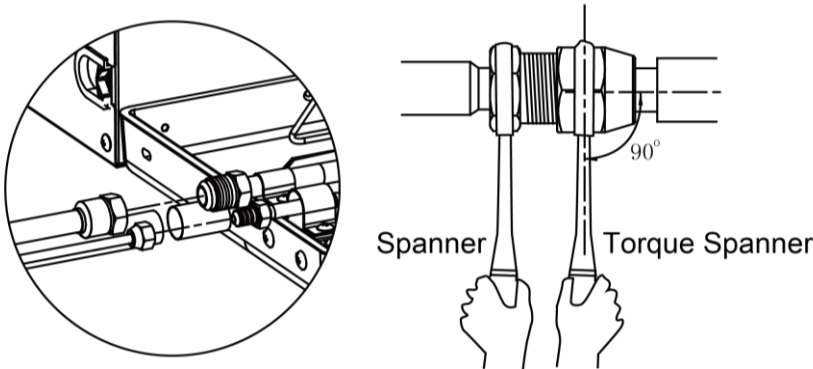

Fig.4.3.1
- (1) Before welding pipes and sealing caps, please release the residual pressure in the pipes. Direct welding may lead to property loss or personal injury.
- (2) Conform to the following principles during piping connection: Connection pipeline should be as short as possible. The height difference between indoor and outdoor units should be as short as possible. Keep number of bends as little as possible. The radius of curvature should be as large as possible.
- (3) Weld the connection pipes between indoor and outdoor unit. Please strictly conform to the requirements for welding process. Rosin joints and pin holes are not allowable.
- (4) When laying the pipes, be careful not to deform them. The radius of bending parts should be more than 200mm(7-7/8in.). The pipes cannot be repeatedly bent or stretched, otherwise the material will get harden. Do not bend or stretch the pipe over three times at the same position.
- (5) Please use a torque wrench to connect union nut on the indoor unit. See Fig. 4.3.1.